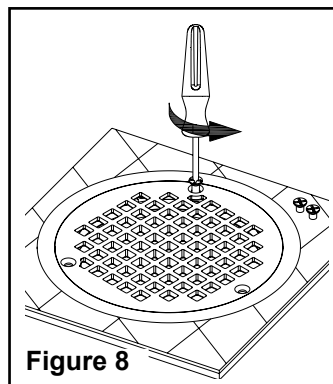

Figure 8
Step 17 – Remove the strainer, set screws aside. Ensure not to drop screws down the drain. See **Figure 8**.